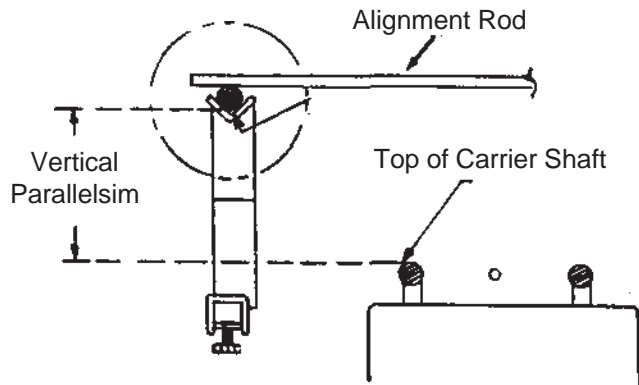

FIG. 37
- B. Raise the indicator slide casting on the vertical support so that the indicator rod can be extended over the center shaft of the reel. See FIG. 37.